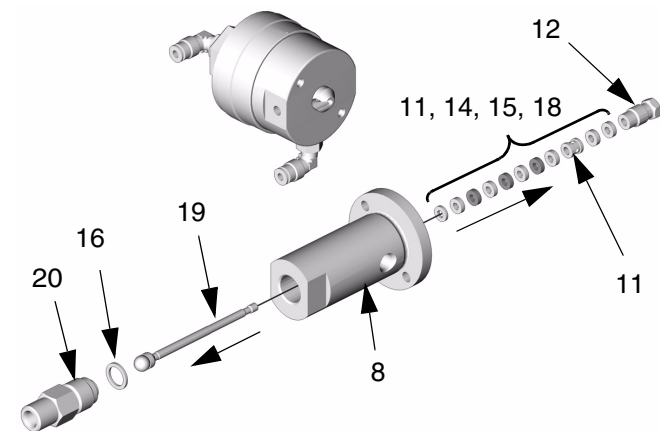

FIG. 4
1. Remove nut (12). See FIG. 4.
2. Remove the seat (20).
1. Join the air and fluid sections together. See FIG. 4.